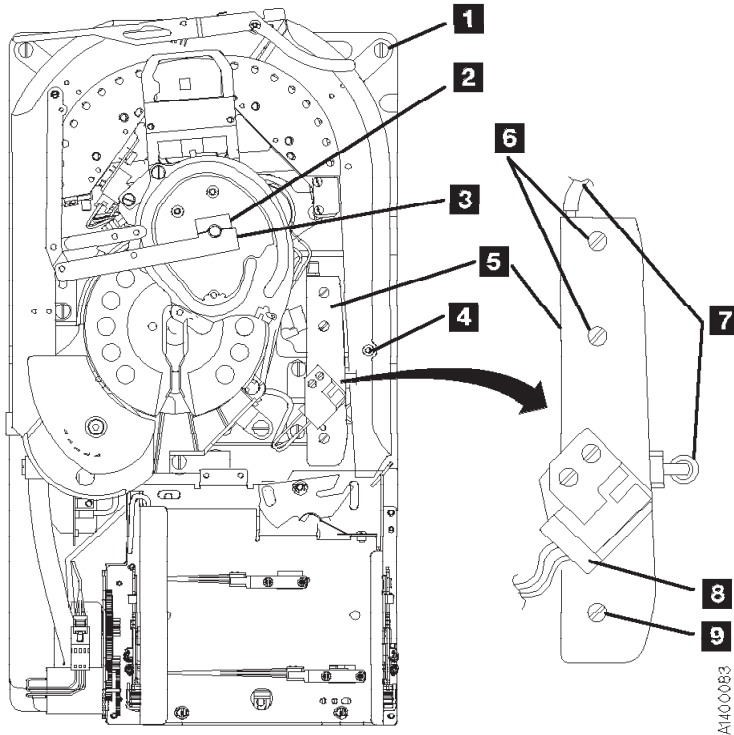

Figure 10-54. Decoupler
4. See Figure 10-54 on page 10-80. Position the pantocam arm **3** so the arm is out of the way of the decoupler **5**.